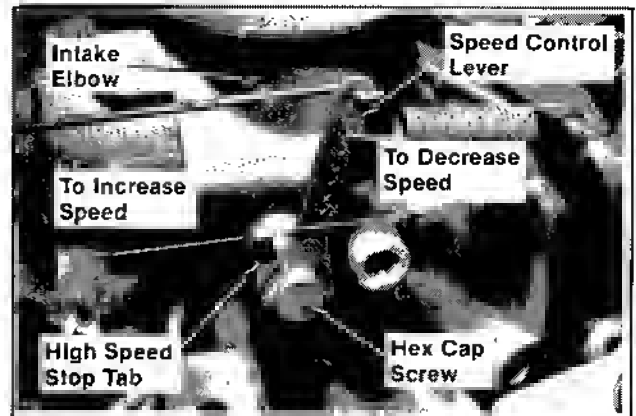

Figure 6A-18. High Speed Adjustment - Remote Throttle Control (Early Tab Version).
1. Loosen the hex. cap screw securing high speed stop tab to intake elbow. Refer to Figure 6A-18.